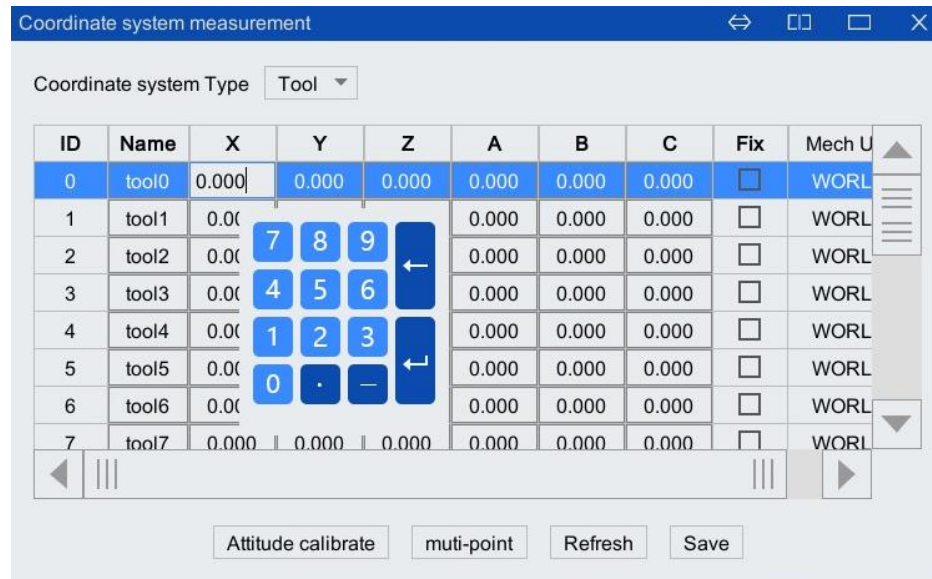

Figure 5-67 Input method setting workobject coordinate system page
Step4. Set the workobject coordinate system by input, refer to Figure 5-67. The table in the figure shows the position of the origin of each workobject coordinate system and the posture of the coordinate system.